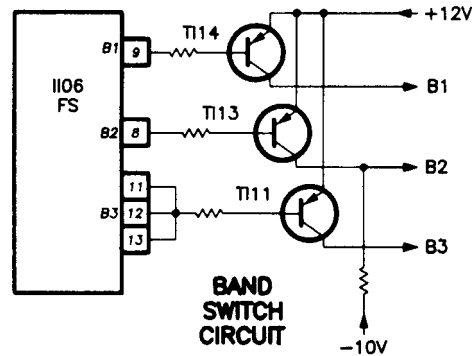

Figure 41, Tuner/Band Switching
3. Verify the band switches are operational. This is a difficult procedure because of the location of the band switching transistors. Figure 41 shows the band switching chart and the location of the band switch transistors on the tuner module. Select the air channels as shown in the chart and verify voltages on the base and collectors of transistors T111, 13, and 14.